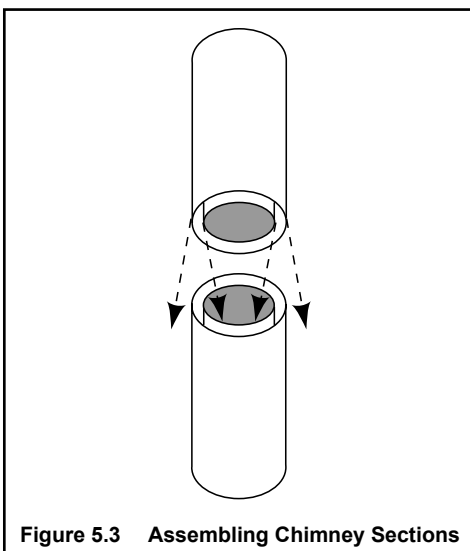

Figure 5.3 Assembling Chimney Sections
- Place inner flue to the inside of the chimney section below it. Place the outer casing outside the outer casing of the chimney section below it. Refer to Figure 5.3.